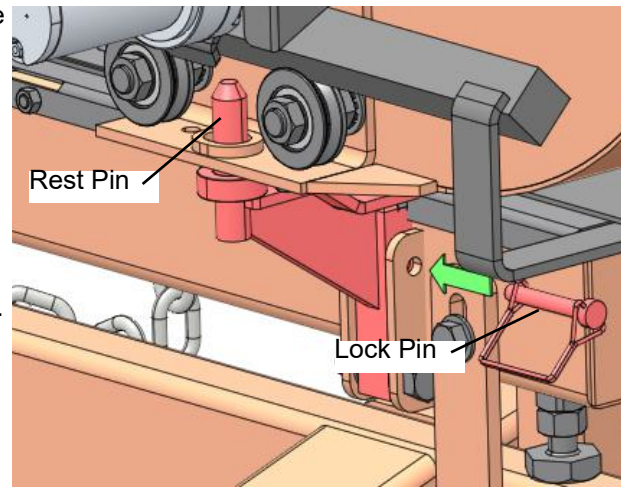

FIG. 4-16
9. Secure the rest pin in the vertical position with the locking pin. See Fig. 4-16..